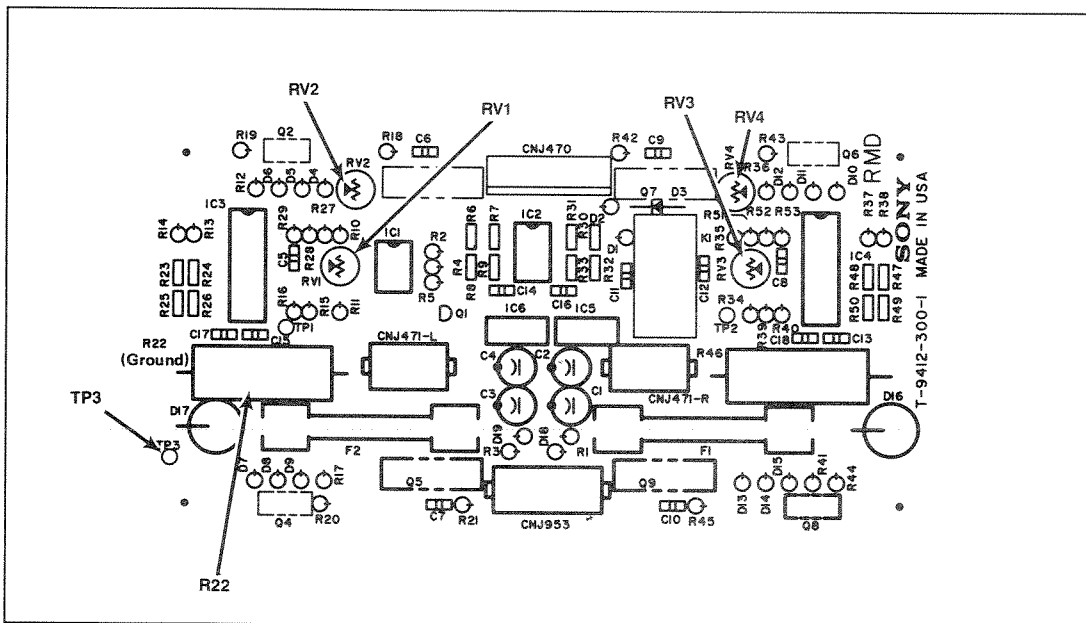
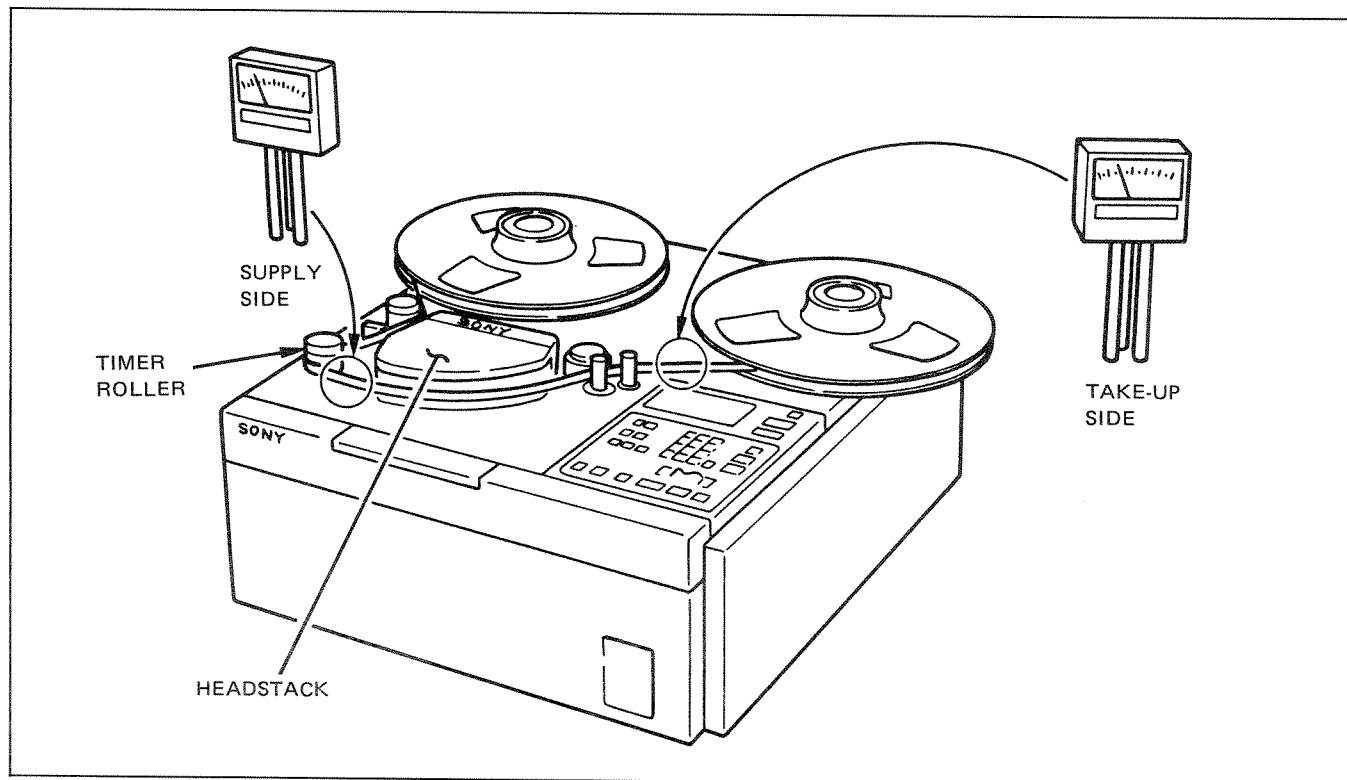

Figure 6-18. RMD Adjustments
Figure 6-19. Tape Tension Measurement
- STEP 2** With the machine in EDIT mode and power on, connect a DVM across R22. Ensure that the negative probe is attached to the grounded end of R22, which is closest to the RMD PC board's edge. Refer to Figure 6-18 for the location of R22 and the ground connection.
- STEP 4** Move the DVM probes across R46. Ensure that the negative probe is attached to the grounded end of R46, which is closest to the RMD PC board's edge. Refer to Figure 6-18 for the location of R46 and the ground connection.
STEP 4 Place the tentelometer between the Timer roller and Headstack (See Figure 6-19.) Adjust RV1 (see Figure 6-18.) on the RMD assembly (rear panel) for 70 grams $\pm$ 5 grams.
STEP 5 Place the tentelometer between the capstan motor and the take-up motor. (See Figure 6-19.) Adjust RV3 on the RMD assembly for 120 grams $\pm$ 5 grams.